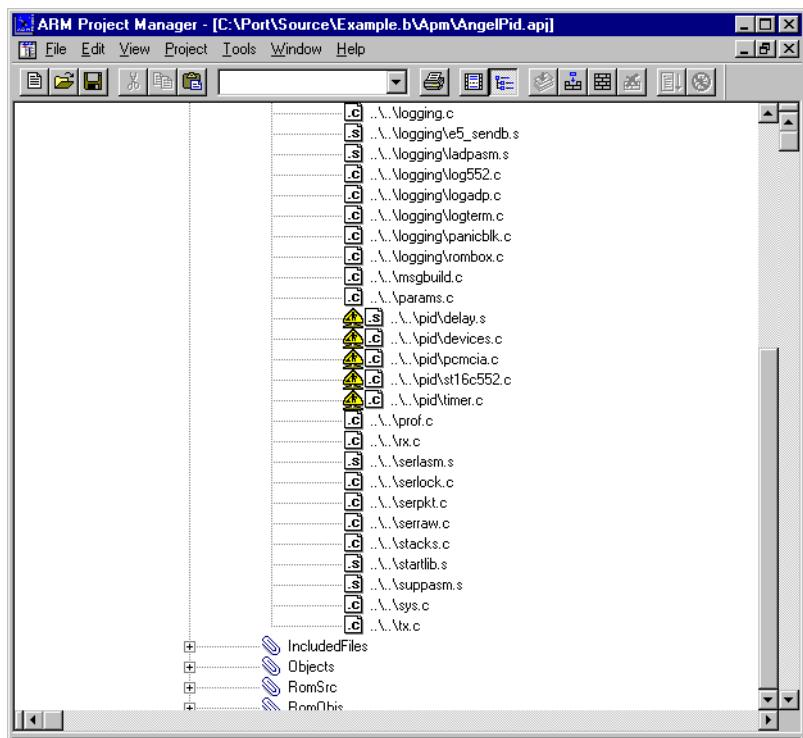

Figure 13-11 Replacing target-specific source files
13. Remove and re-add all target-specific source files to the project. These are the files that are located in the renamed `pid` directory, such as `devices.c` and `makelo.c` (see Figure 13-11 on page 13-54). In general you will have to replace these files with your own code when porting Angel.